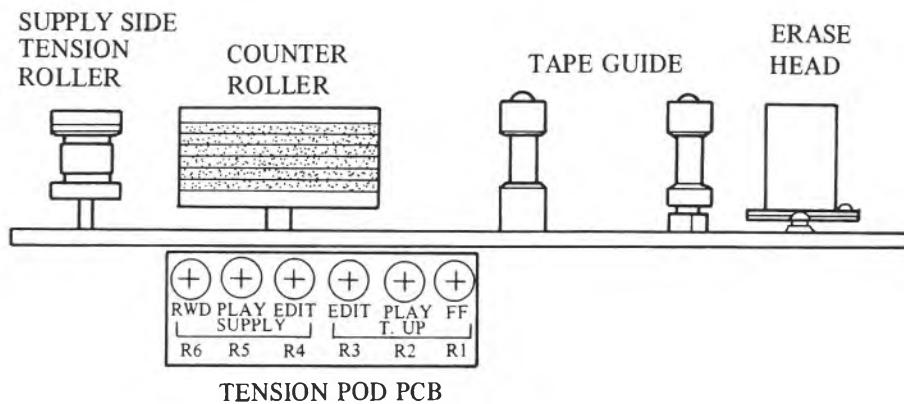

Fig. 4.8
- 4) With putting G16 on the horizontal position, pull the “Panel Lock Release Knob” on the Controller down to open up the Controller panel. (open the Controller panel fully to see and calibrate the pots of TENSION POD PCB) (shown in Fig. 4.8).